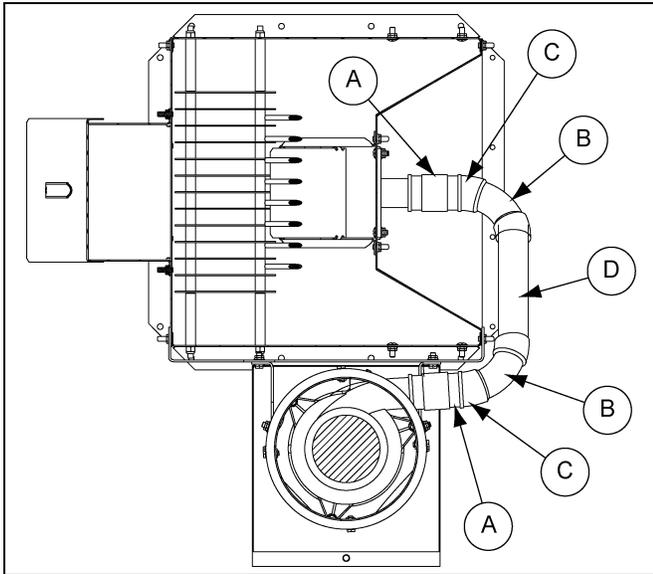

Figure 2E
1. Install the flexible pipe coupler (A) to the blower and to the blower moisture tube weldment (GT4-1532).
2. Connect a black ABS pipe (C) to the end of each of the flexible pipe couplers (A).
3. Connect a flexible pipe elbow (B) to the end of each of the black ABS pipe (C).
4. Install the black ABS pipe (D) between the flexible pipe elbows (B).
5. Fasten all hose connections using a hose clamps (AP-0583). (See Figure 2E.)